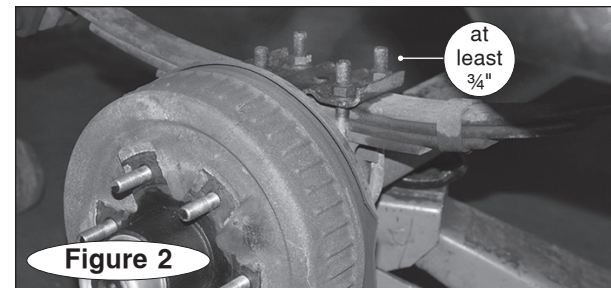

Figure 2
- Ensure that the U-bolts attaching the trailer's leaf springs to the axles have at least  $\frac{3}{4}$ " of thread showing beyond the nut (Figure 2). **Note:** If you need longer U-bolts, order **part 2630** for the 3" axles or **part 2635** for  $3\frac{1}{2}$ " axles. You will need one pair per axle.